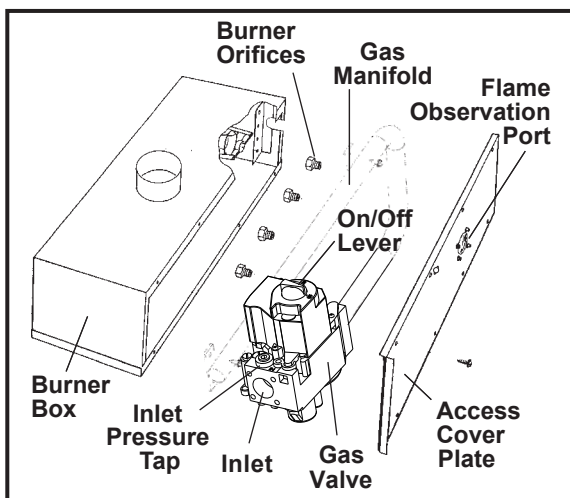

Figure 25. Typical Installation For Sealed Burner Box With Access Cover Plate
1. Remove the four (4) fasteners that secure the gas manifold to the burner box, as shown in Figure 25. Carefully remove the gas manifold assembly from the burner box. Note that the gas manifold assembly consists of the gas valve, the gas manifold, and the orifices.
2. Carefully remove the burner orifices from the gas manifold, as shown in Figure 25.